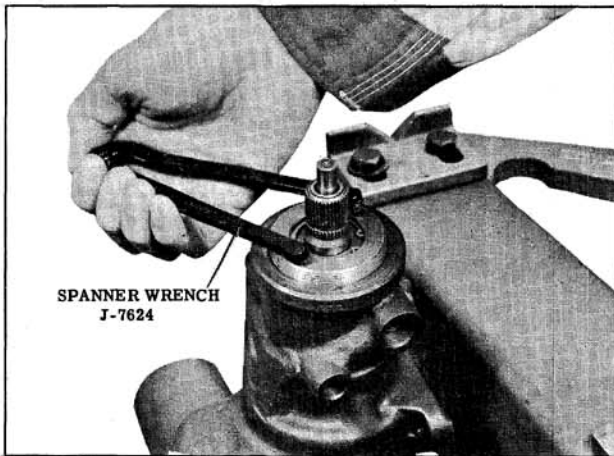

Fig. 8-47 Removing Adjuster Plug
- b. Remove adjuster plug assembly with Spanner Wrench J-7624. (Fig. 8-47) Remove and discard the plug "O" ring.